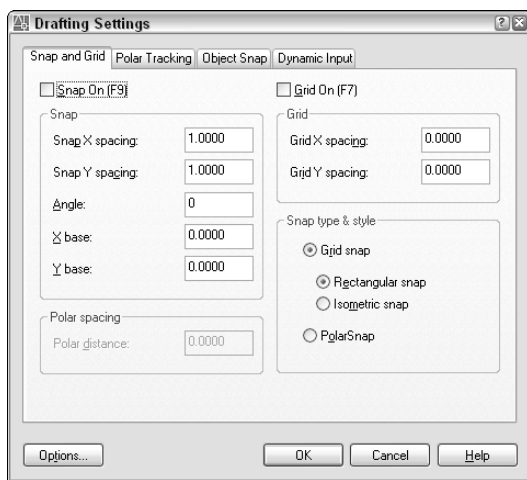

Figure 4-18: The Snap and Grid tab of the Drafting Settings dialog box.
To set the snap size, choose Tools ⇨ Drafting Settings or right-click the SNAP button on the status bar and choose Settings. The Drafting Settings dialog box opens, as shown in Figure 4-18. (If necessary, click the Snap and Grid tab.) In the Snap X Spacing text box of the Snap section, type the spacing you want between snap points. Make sure that Grid snap and Rectangular snap are checked in the Snap type & style section of the dialog box. Click OK.
2. Check PolarSnap in the Snap type & style section of the dialog box (refer to Figure 4-18).
To set the grid size, choose **Tools** ⇨ **Drafting Settings** to open the **Drafting Settings** dialog box (refer to Figure 4-18). If necessary, click the **Snap and Grid** tab. In the **X Spacing** text box of the **Grid** section, type the spacing you want between grid points. Click **OK**.